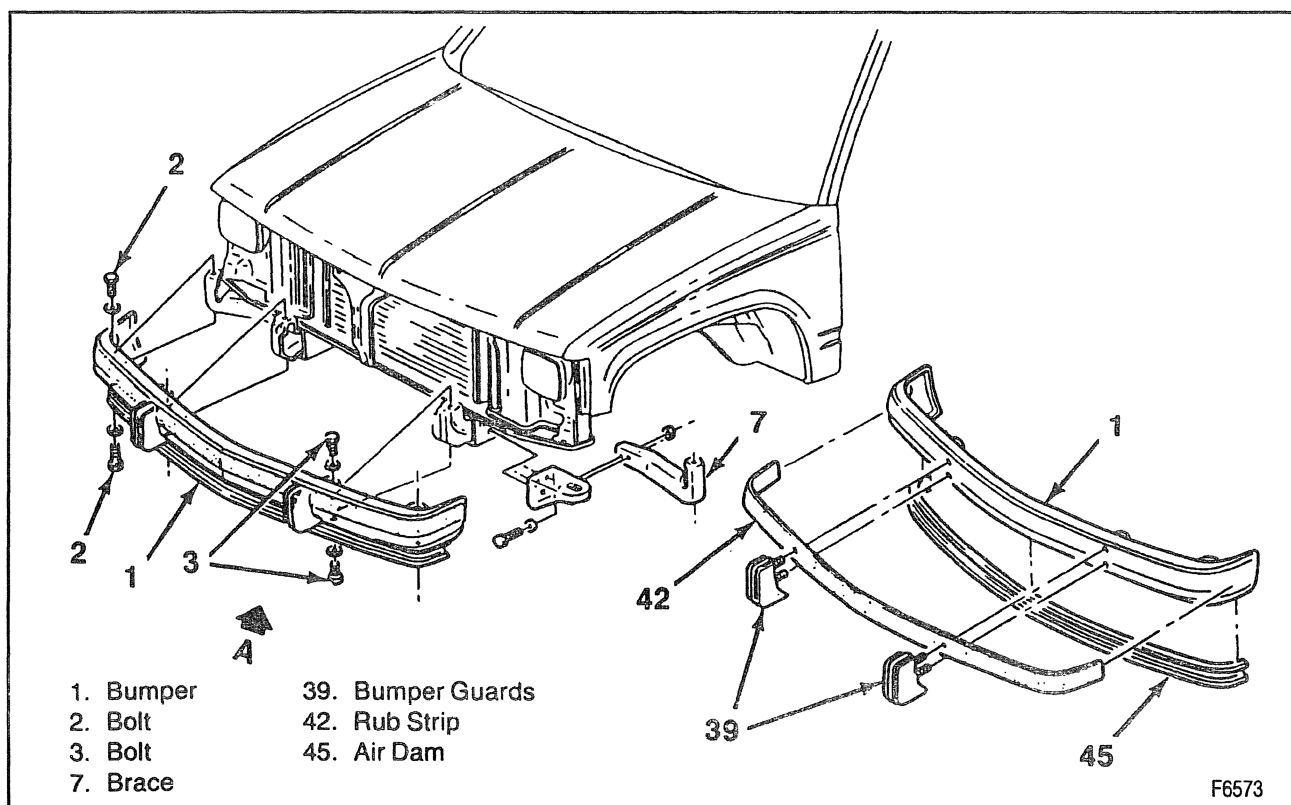

Figure 5—Bumper Assembly Components
5. Guards from the bumper (if equipped) (figure 5).